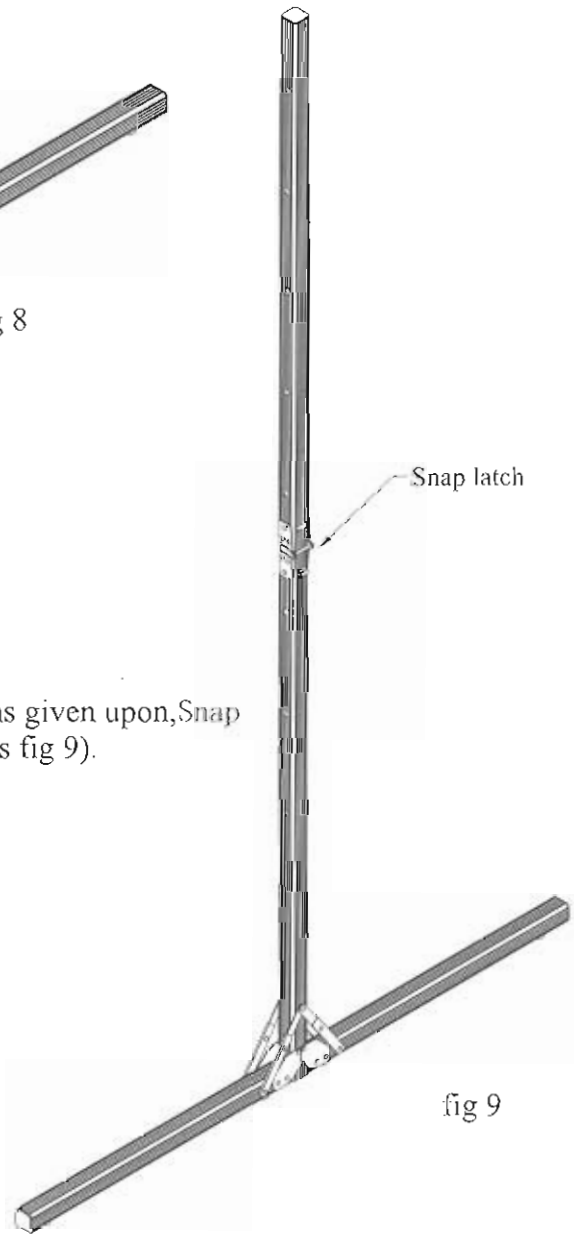

fig 9
3. Unfold the T-leg following the directions given upon, Snap latches will automatically lock (as fig 9).